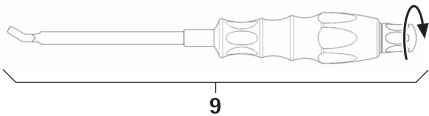

Fig. 14
- ▶ Assemble rod insertion instrument **9**, see Fig. 14.